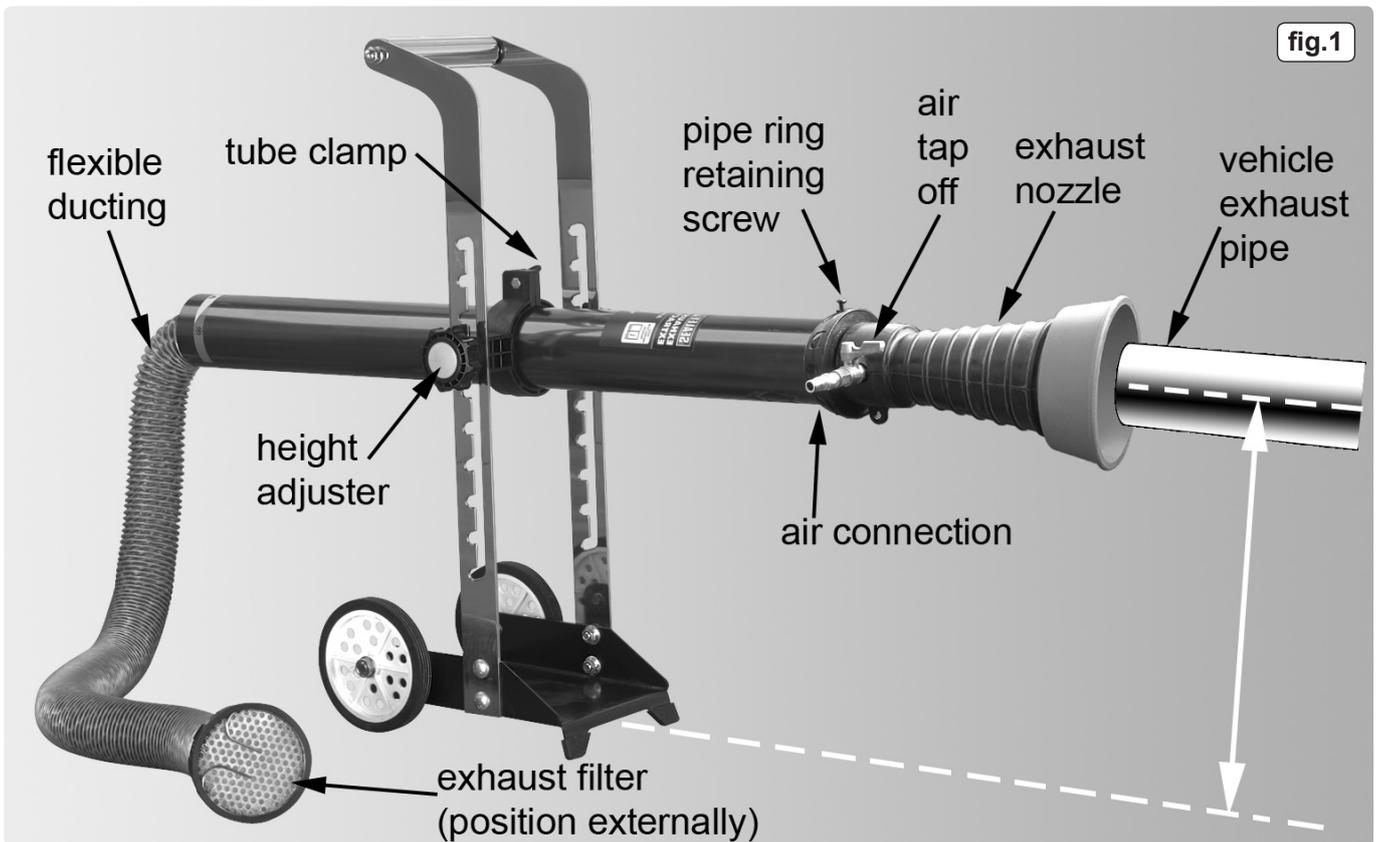

fig.1
- 3.1. Ensure that the air tap (fig.1) is in the "off" position before connecting to the air supply.